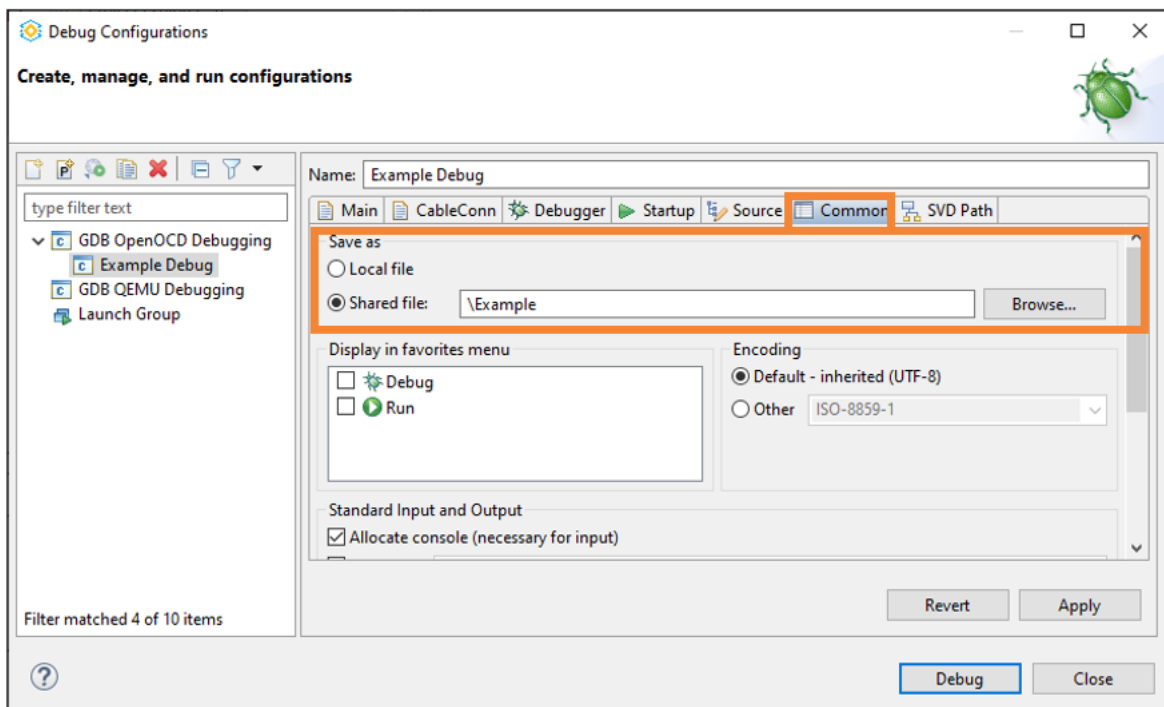

Figure 3.41. Common Tab of Debug Configurations
- (Optional) Select the **Common** tab (Figure 3.41). The **Save as > Local file** option is selected by default. This causes the debug launch configuration saved to the workspace. You can change the setting of the **Save as** field to **Shared file**. In this way, the debug launch configuration is saved into the project, and this aids project portability.
4. Click the **Debug** button (Figure 3.41).